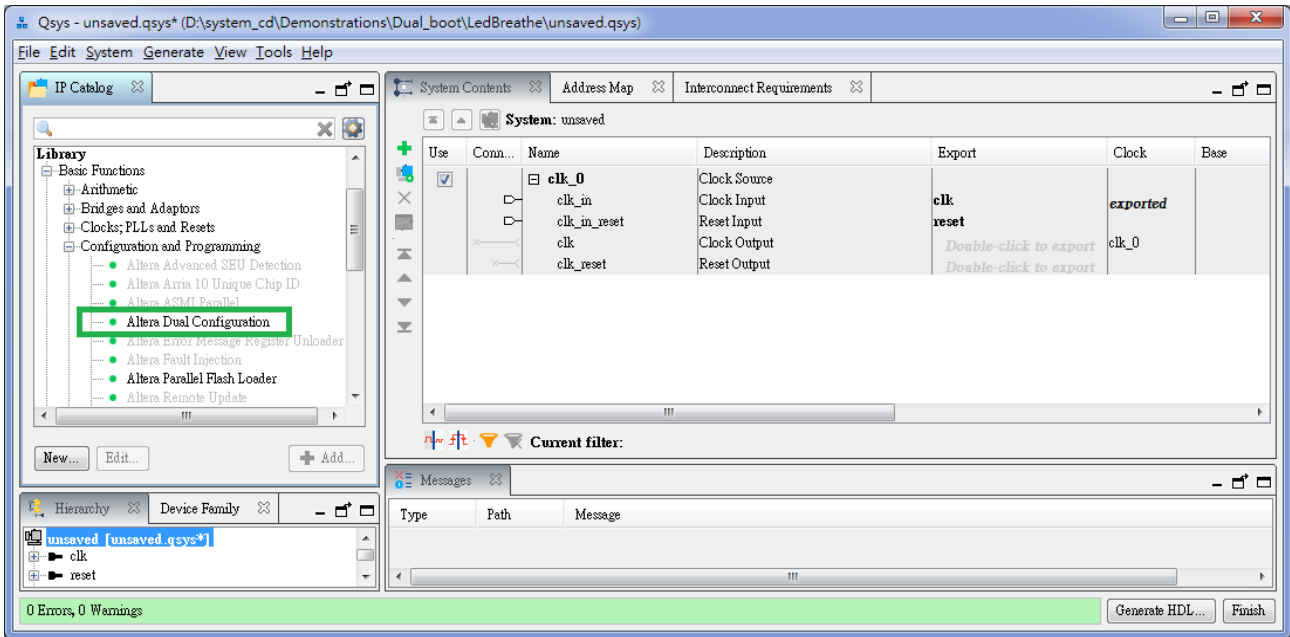
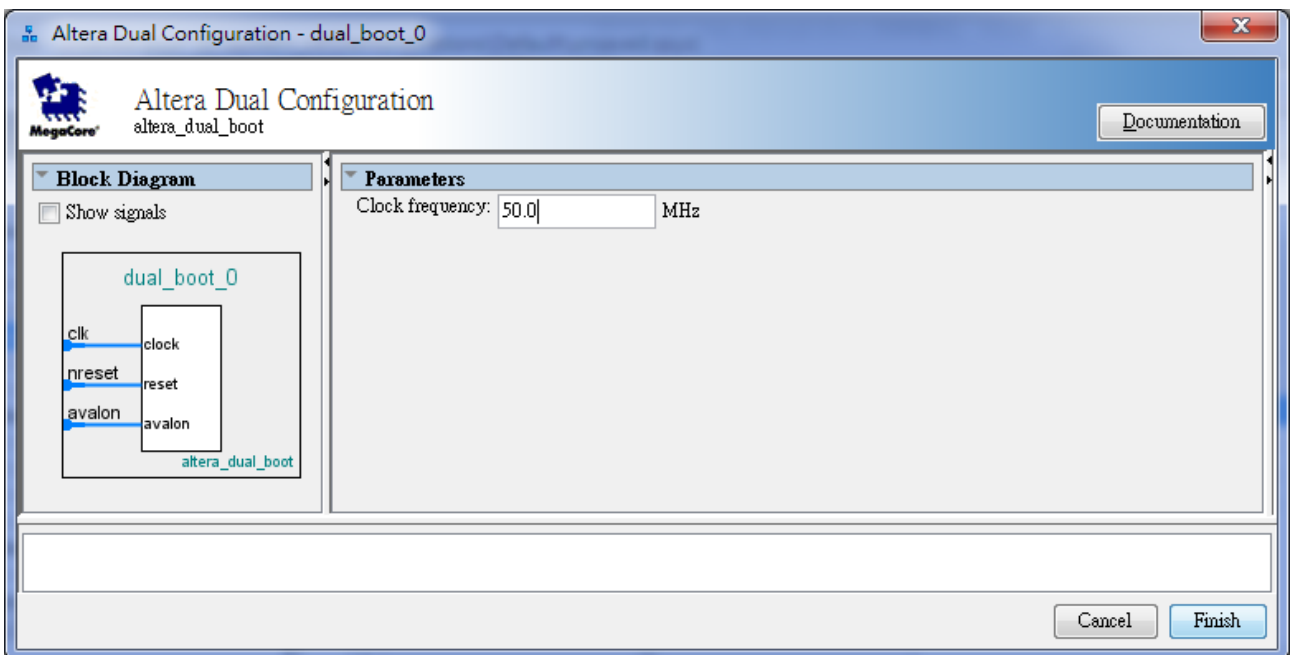

Figure 6-5 Select Altera Dual Configuration IP and click.
Figure 6-6 Open wizard and click Finish.
- Please choose **Library > Basic Function> Configuration and Programming > Altera Dual Configuration** to open wizard of adding dual boot IP. See **Figure 6-5** and **Figure 6-6**.